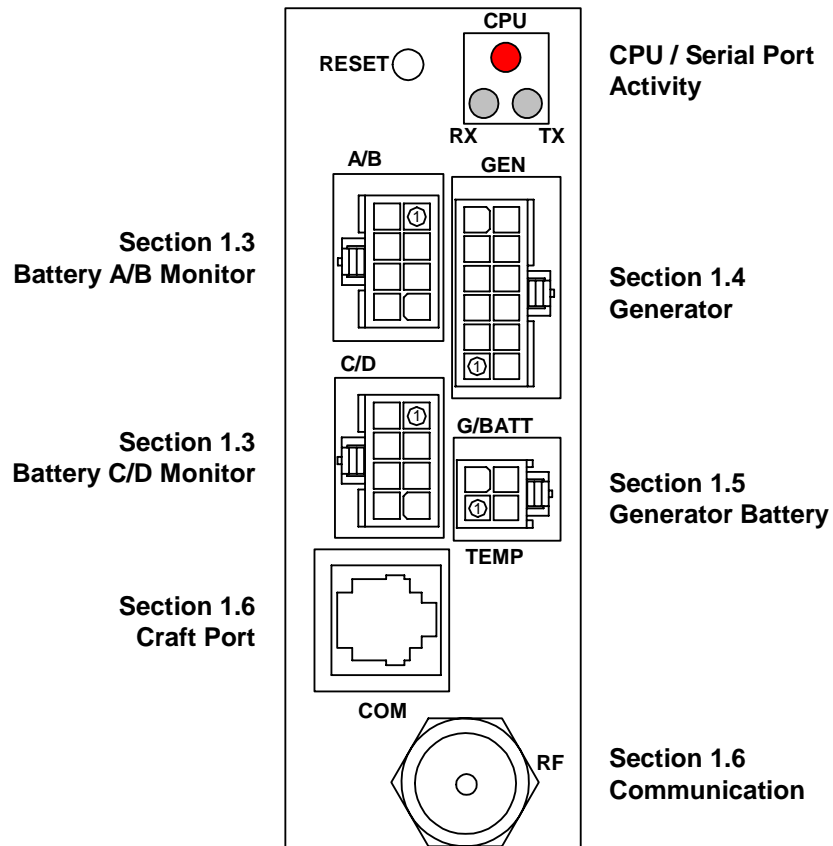

Figure 1-2 Input / Output Connections
19. Verify that, after approx. 1 minute, the 'CPU' LED on the front of the transponder is blinking, if not, press the RESET button behind the hole next to the LEDs (see fig. 1-2).